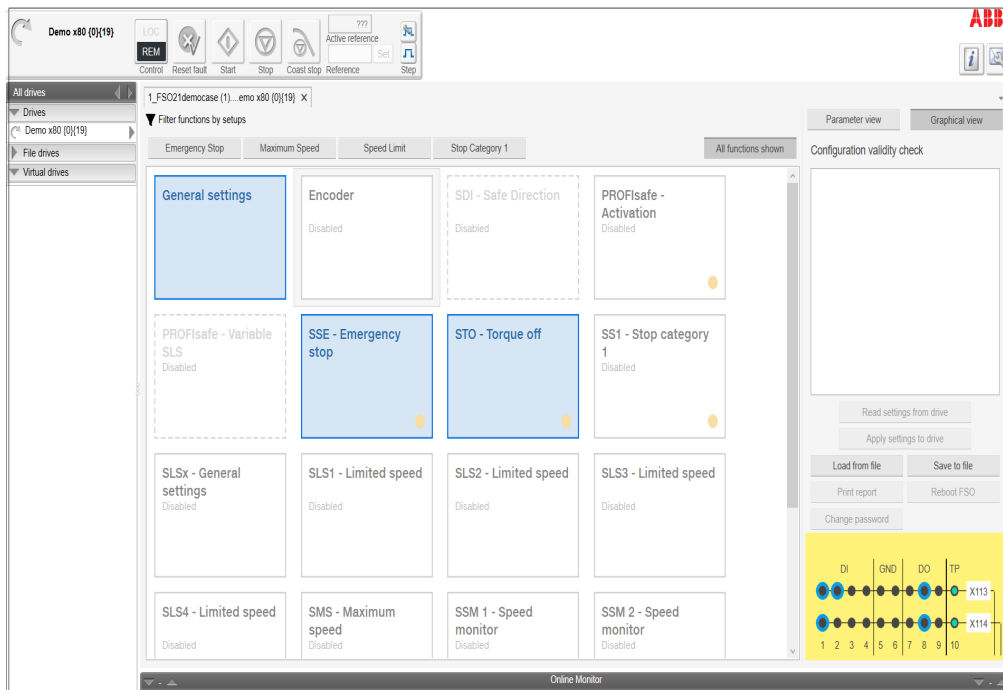
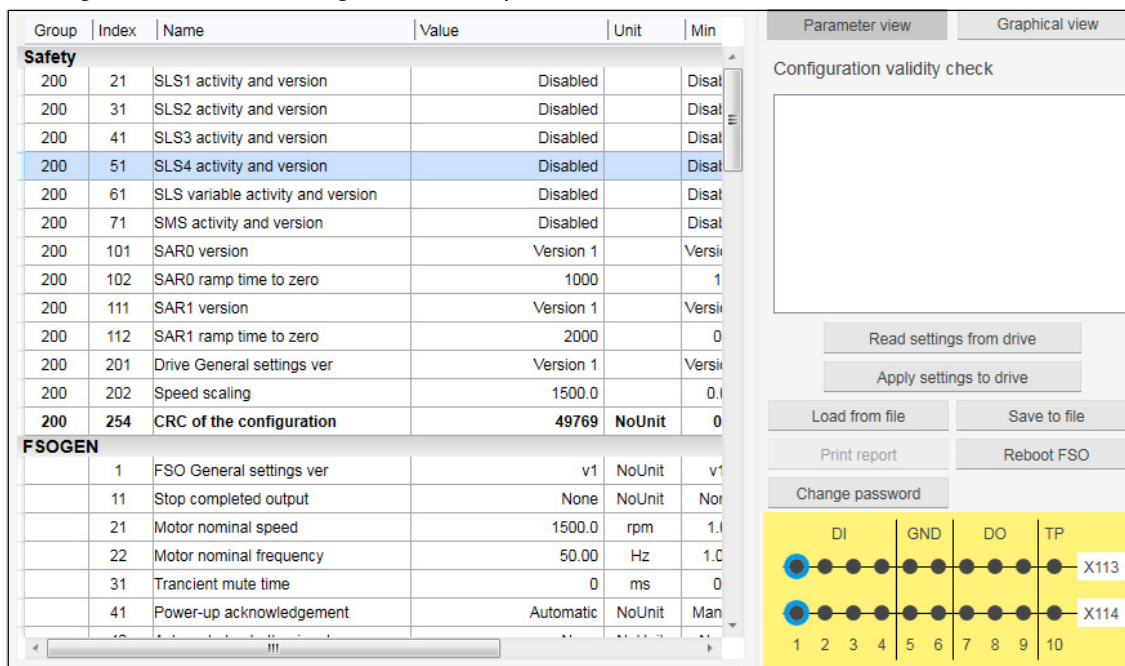

Figure 113. FSO configuration: Graphical view
Figure 114. FSO configuration: Parameter view
You can switch between **Graphical view** and **Parameter view**. See Figure 113.FSO configuration: Graphical view and Figure 114.FSO configuration: Parameter view.
- Graphical view cannot be used for setting safe IO, cascade function or for SBC function (see Figure 113.FSO configuration: Graphical view). Instead use the Parameter view (see Figure 114.FSO configuration: Parameter view).